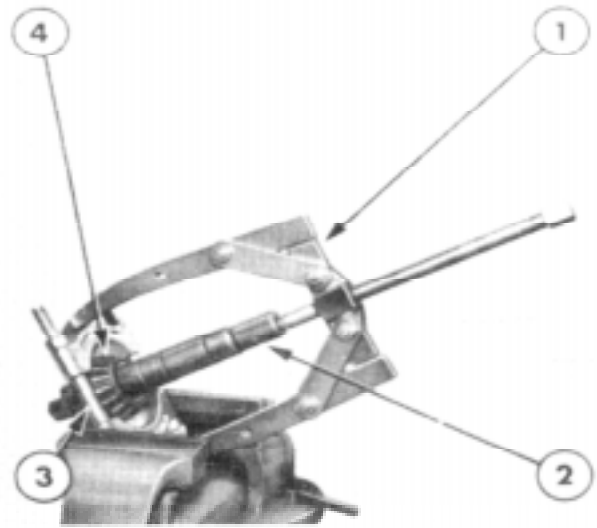

Figure 18
3. If it is necessary to install a new rear pinion cone and roller assembly, the assembly may be removed using Tool Nos. EF-0800 and EF-0501. The new cone and roller is installed using the same tools and a suitable sleeve to enable the tool to press on the inner bearing race, Refer Figure 18 and 19.